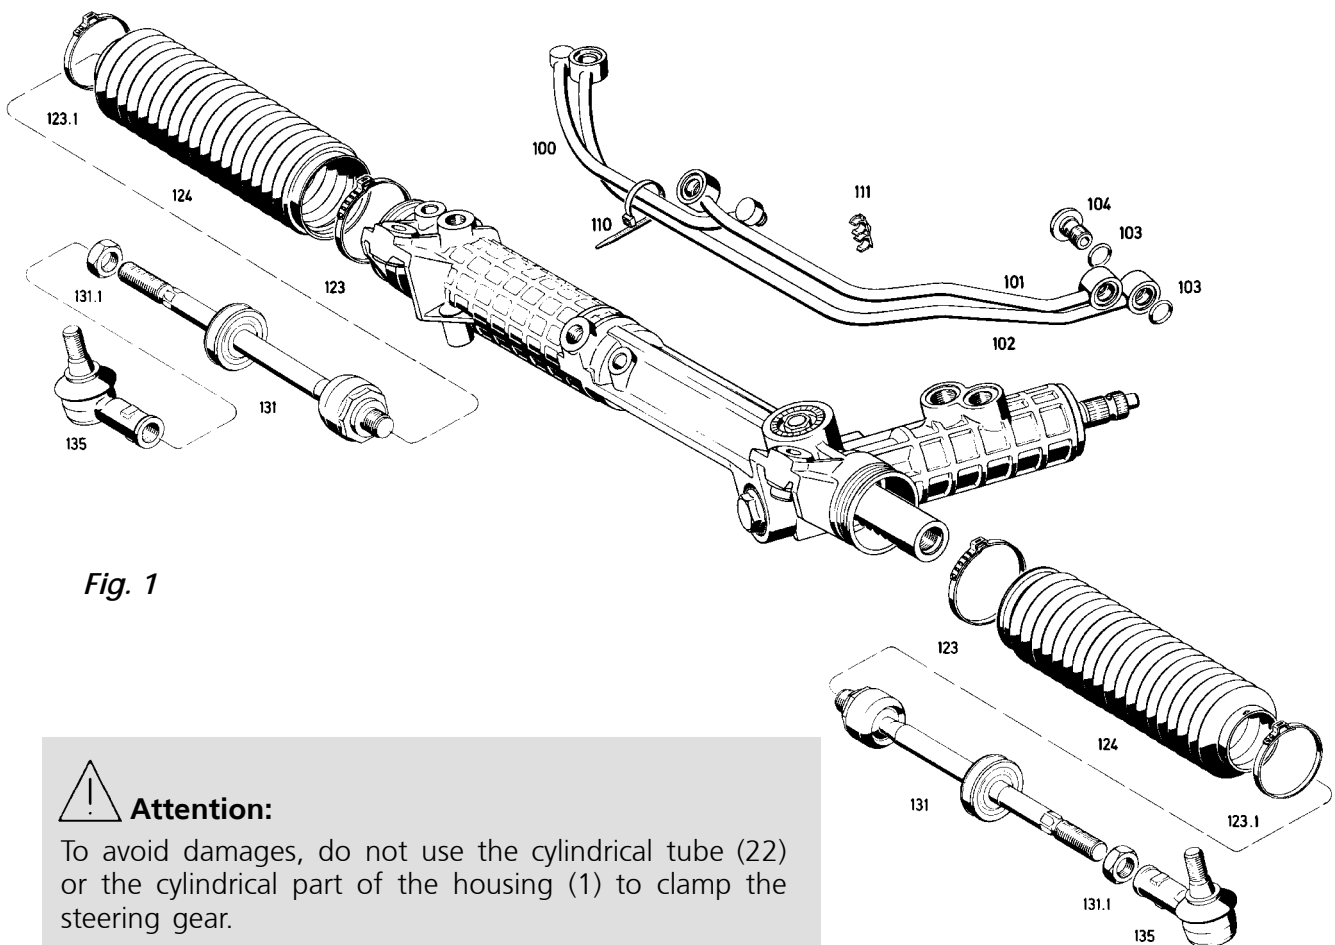

Fig. 1
Remove hose clips (123 and 123.1) (Fig. 1).
Remove the cable clip (110) and the retainer (11) (*Fig. 1*).